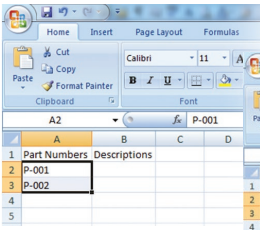
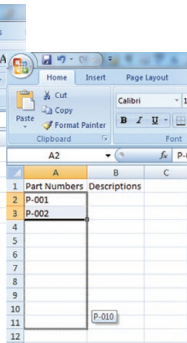

FIGURE 3 Enter two rows of numbers ...
FIGURE 4 ... then drag your cursor the number of cells equal to the total number of labels in your sequence.
- A.** Enter your first two sequential numbers in cells A2 and A3 (Fig. 3). Select cells **A2** and **A3** and place your cursor over the little box in the lower-right corner of the selection. Your cursor becomes a “+.” Now click and drag the selection down the **number of cells equal to the number of labels** in the sequence (Fig. 4).